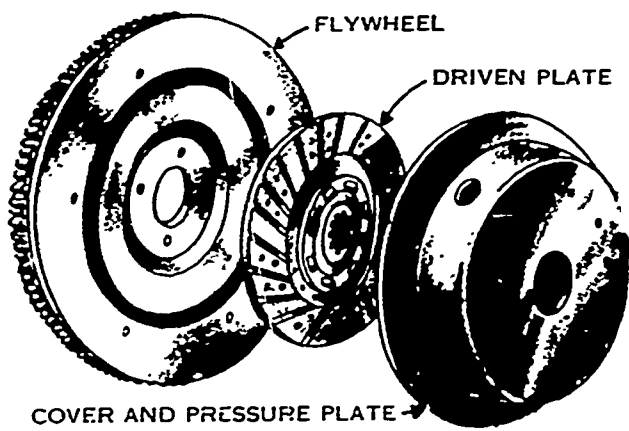

Fig. 2 Clutch nomenclature
**OPERATION AND TERMINOLOGY** -- There are many types of clutches used with manual transmissions, but basically they all operate in the same manner. The friction clutch consists of one plate squeezed tightly between two other plates. The plate in the middle is the **DRIVEN** plate; it is the one splined to the shaft leading to the transmission and is not connected to the flywheel. The other two plates are the **DRIVING** plates, both of which are connected to the engine, see Figure 2.
The engine flywheel is used for the first driving member (plate). Its surface is smooth where the driven plate pushes up against it. The other driving member is called the **PRESSURE** plate, see Figure 2. This plate is a heavy ring of cast iron, smooth on one side. It is fastened to the cover, which is bolted to the flywheel. It is fastened in such a way that